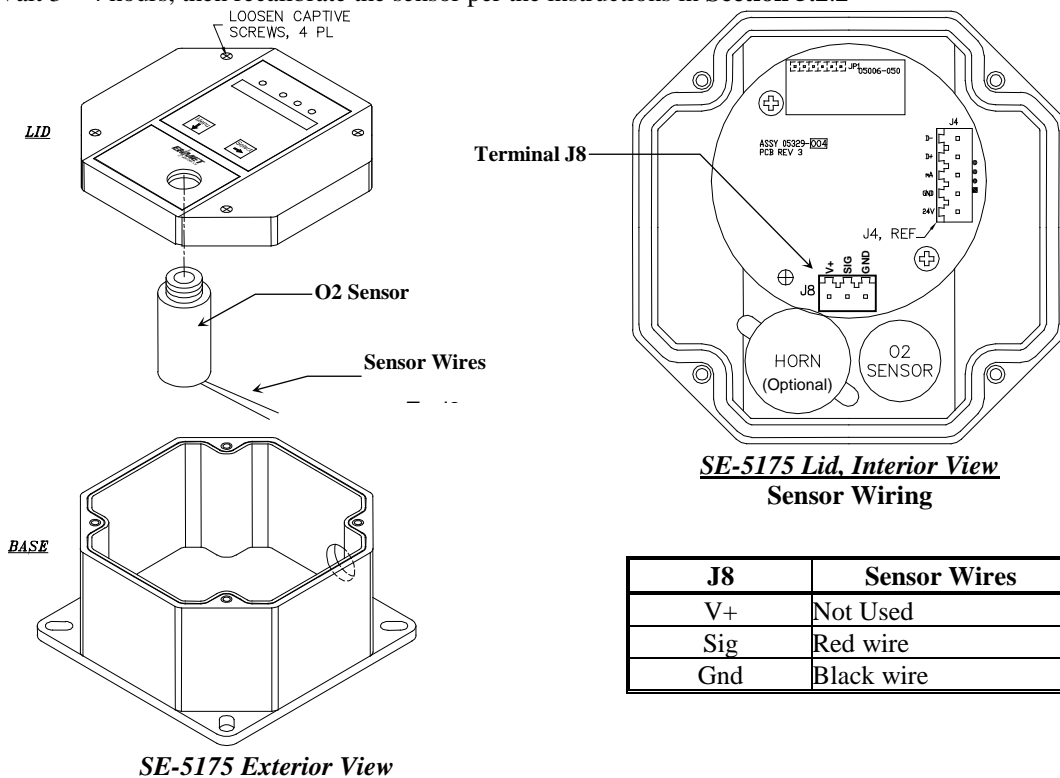

Figure 6: SE-5175 Sensor Replacement
- Open the display panel and remove the four cover (lid) retention screws and remove the lid. See **Figure 6**.
- Remove the old O₂ sensor, by unscrewing it, and replace it with a new sensor. See **Figure 6**.